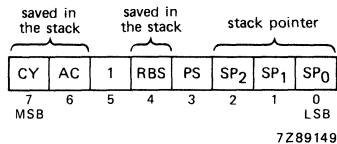

Fig. 21 Program status word.
**Program status word** (see Fig. 21)